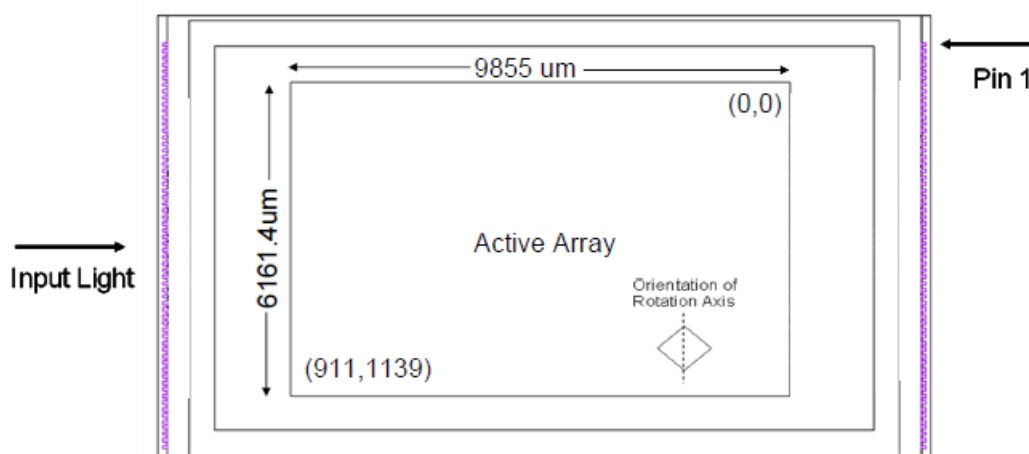

Figure 5. DLP4500 Micromirror Active Area
(1) See Micromirror Array, Pitch, and Hinge-Axis Orientation.
(2) See Micromirror Active Area in Figure 5.
(3) The mirrors that form the array border are hard-wired to tilt in the –12° (“Off”) direction once power is applied to the DMD (see Micromirror Array, Pitch, and Hinge-Axis Orientation and Micromirror Landed Positions and Light Paths).